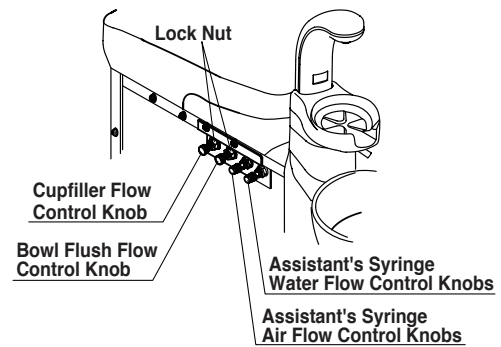

Fig.3-23 Flow Control Knobs in Cuspidor Unit Body
(3) Cuspidor Unit Body
A. Assistant's Syringe Flow Control Knobs (Fig.3-23)
B. Cupfiller Flow Control Knob (Fig.3-23)
C. Bowl Flush Flow Control Knob (Fig.3-23)